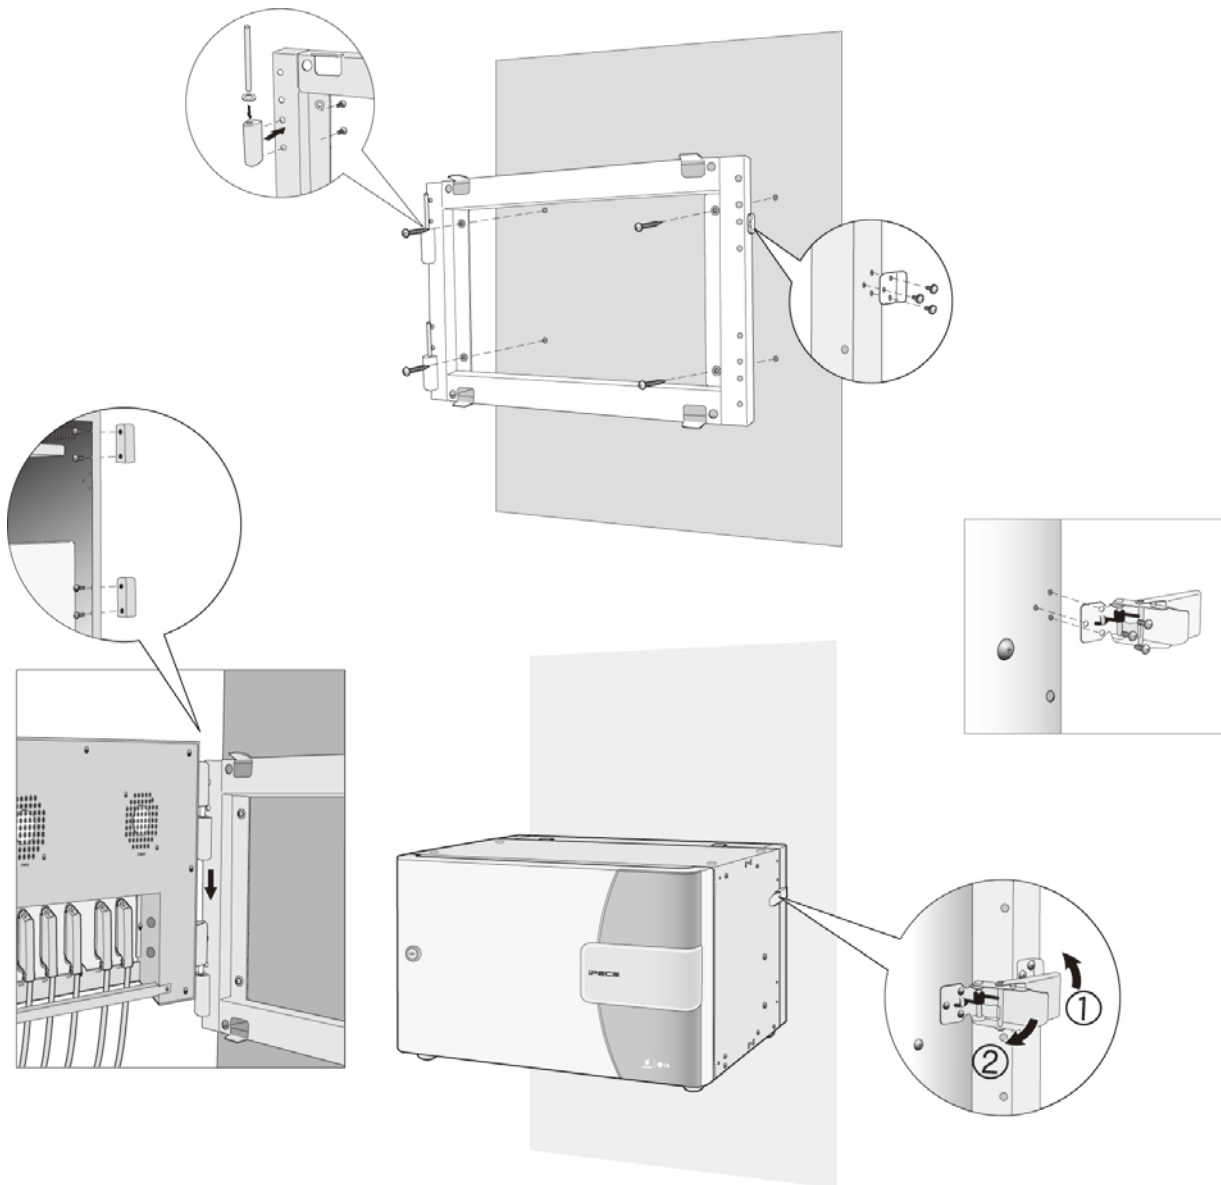

Figure 5.1.3-1 Cabinet Wall Mount Kit Installation
The optional Cabinet Wall Mount kit mounts to the wall then the cabinet is attached to the Wall Mount kit. The Wall Mount kit permits the cabinet to swing on hinges for access to the back plane telephony cabling. The hinges may be placed on either side of the cabinet prior to installation. Select the hinged side for maximum clearance and lighting. Also, to keep the cabinet from swinging open, a latch is provided. Follow the steps below and Figure 5.1.3-1 for installation.
2. Mount the separated hinge bodies, two to the Wall Mount bracket and two to the cabinet using the M6 x 8 mm machine screws; two (2) for each hinge body provided.
3. Use the Wall Mount kit to mark the location of four (4) mounting holes for the Wall Mount kit as shown in Figure 5.1.3-1. Assure the Wall Mount holes are level and plum.
4. Drill four (4) 7 mm holes for the plastic wall anchors provided.
5. Fully Insert a wall anchor into the each of the four (4) holes, insert and tighten screws leaving about 6 mm (¼-inch) exposed.
6. Place the Wall Mount kit on the four (4) screws and tighten the screws securely.